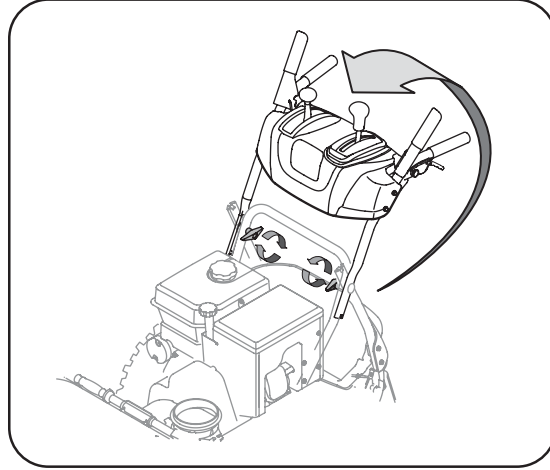

Figure 3-1
- Observe the lower rear area of the snow thrower to be sure both cables are aligned with roller guides. Pull up on the upper handle, align the upper handle with the lower handle. See Figure 3-1.